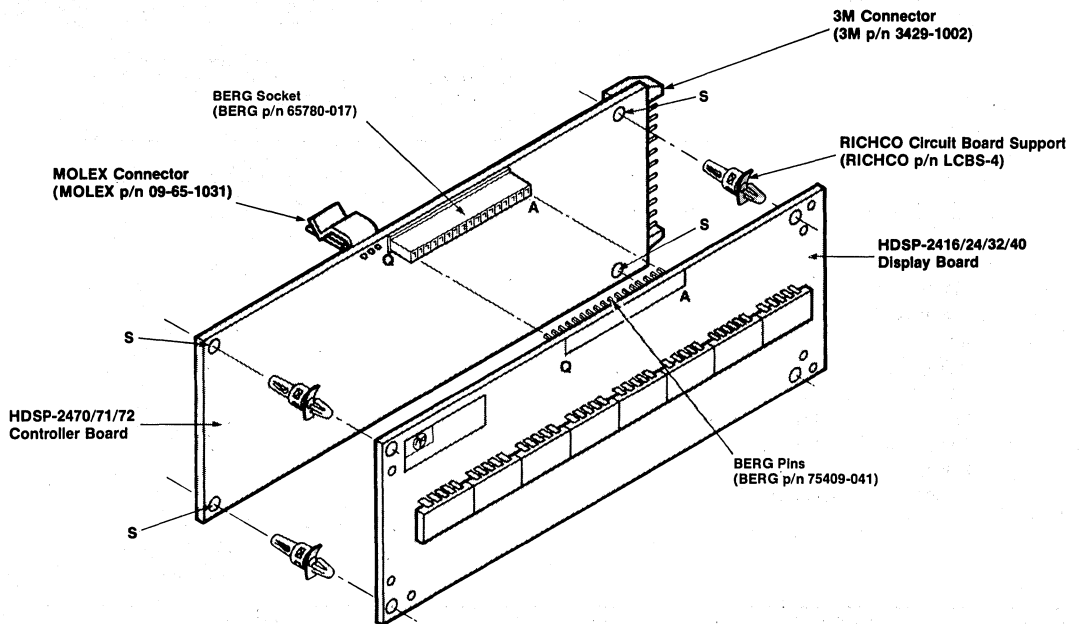

Figure 12. Assembly Drawing.
Included with the controller board are four locking circuit board support nylon standoffs (Richco LCBS-4). This hardware allows the controller board to interconnect with any of the standard display boards. Figure 12 depicts correct assembly technique.
1. Insert the standoffs into .151 diameter holes (noted as "S" on Figure 12. The long end of the standoffs should protrude through the controller board side.